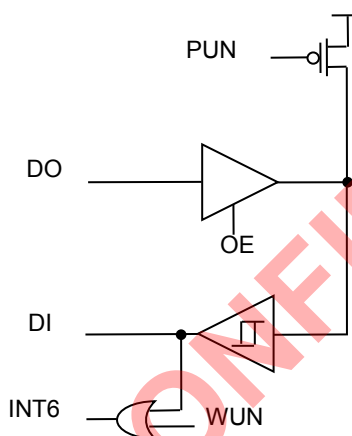

Figure 11.1 Ports I/O block diagram
A9129 has 24 Digital I/O Pins. There are separated to 3 Ports (Port0, Port1 and Port3) and each of the Port pin can be defined as general-purpose I/O (GPIO) or peripheral I/O signals connected to the timers, UART, I2C and SPI functions. Thus, each pin can also be used to wake A9129 up from sleep mode. User can select each pin function by setting register. Each port has itself port register like P0 (0x80), P1 (0x90) and P3 (0xB0) that are both byte addressable and bit addressable. When reading, the logic levels of the Port's input pins are returned. Each port has three registers to setting Pull-up (PU), Output-enable (OE) and Wake-up enable (WUE). As shown the bellow block diagram, Fig. 11.1. Unused I/O pins should have a defined level and not be left floating. One way to do this is to leave the pin unconnected and configure the pin as a general-purpose I/O input with pull-up resistor.